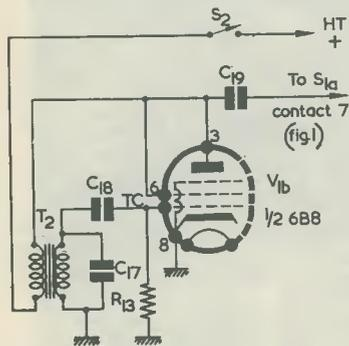

Fig. 3. The a.f. oscillator. This employs the pentode section of the 6B8, the diode section of this valve appearing in Fig. 1
- V_{1(a)} ½6B8. (Pentode section in Fig. 3)
Components List (Fig. 3)
The circuit of the 1,000 c/s oscillator is given in Fig. 3. This employs the pentode section of the 6B8, the diodes of which provided $V_{1(a)}$ in Fig. 1. The pentode section is triode-connected.